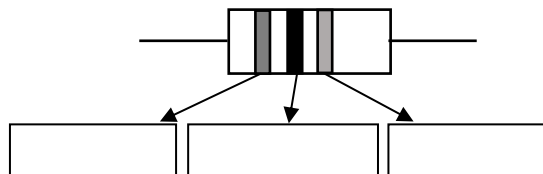

Figure 10
d. Figure 10 shows an illustration of a 10 K resistor. Find and fill in the first **THREE** colour bands of the resistor. (3)